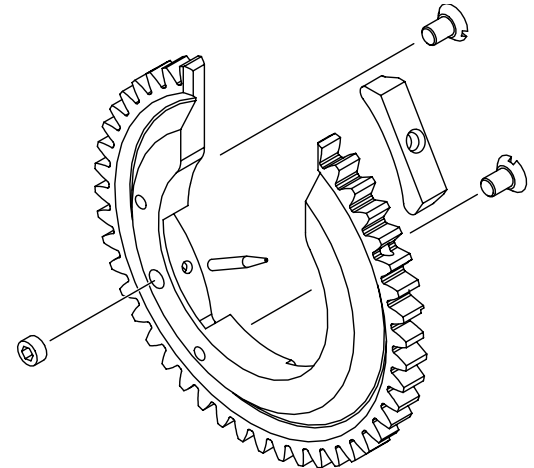

Figure 52 *Installing the Ceramic Insert*
2. Install the new electrode, and secure it with a set screw. See Figure 52.